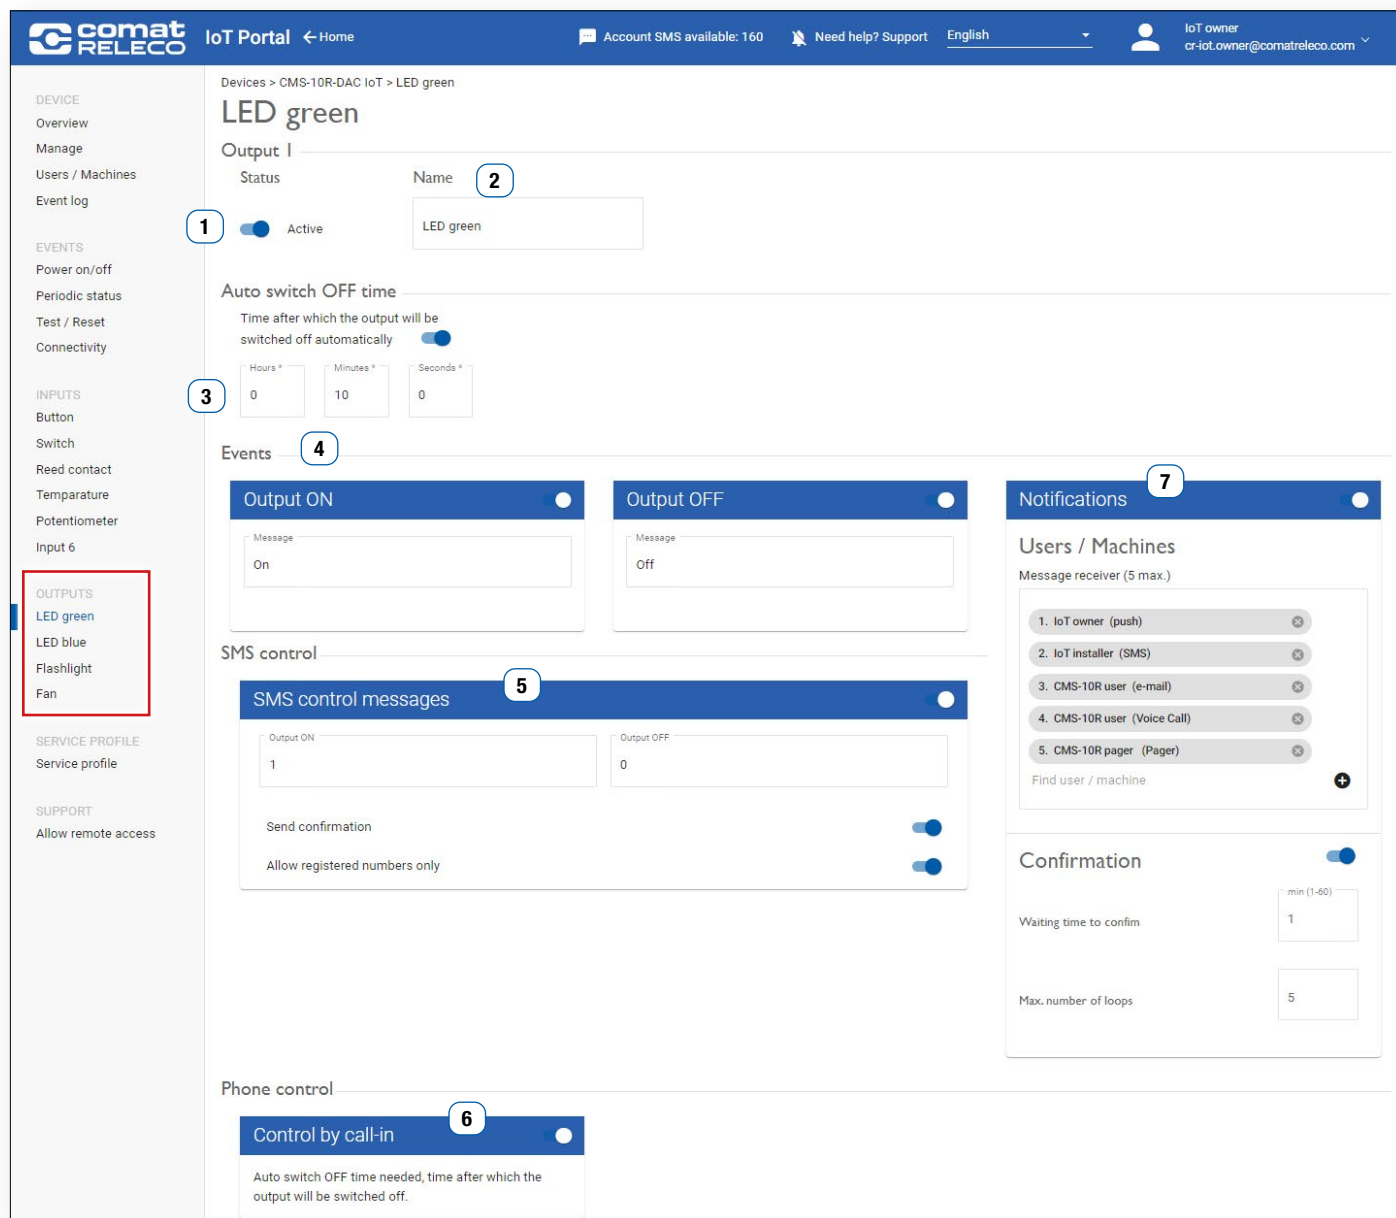

Figure 71
If a time is entered for **Auto turn off** (see Figure 71 (3)), the output switches off automatically after this time.